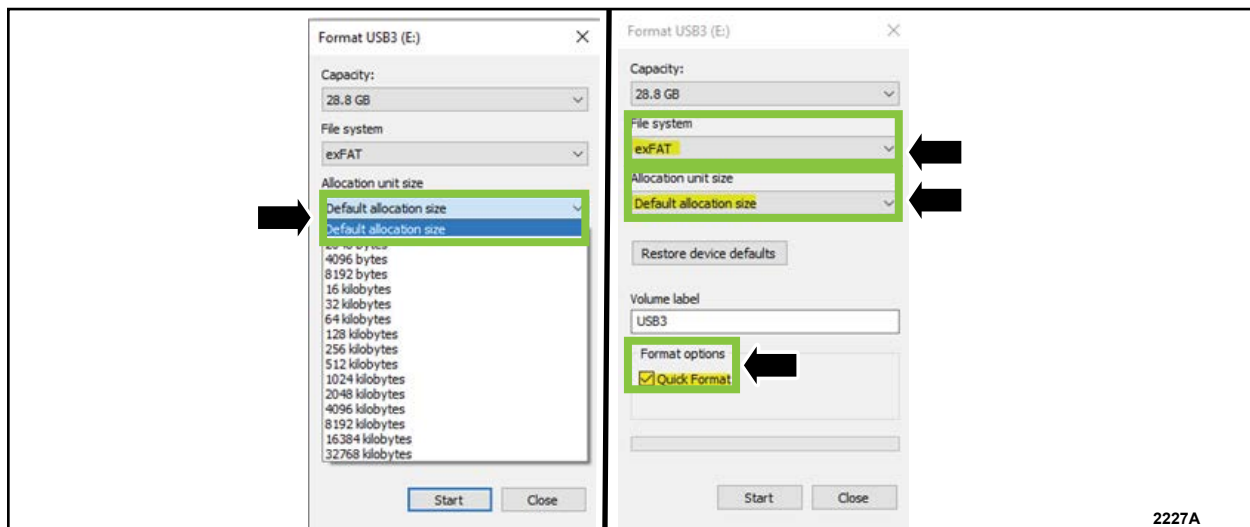

FIGURE 4
- d. De-selecting Quick Format is not necessary and will result in a lengthier operation. See Figure 4.